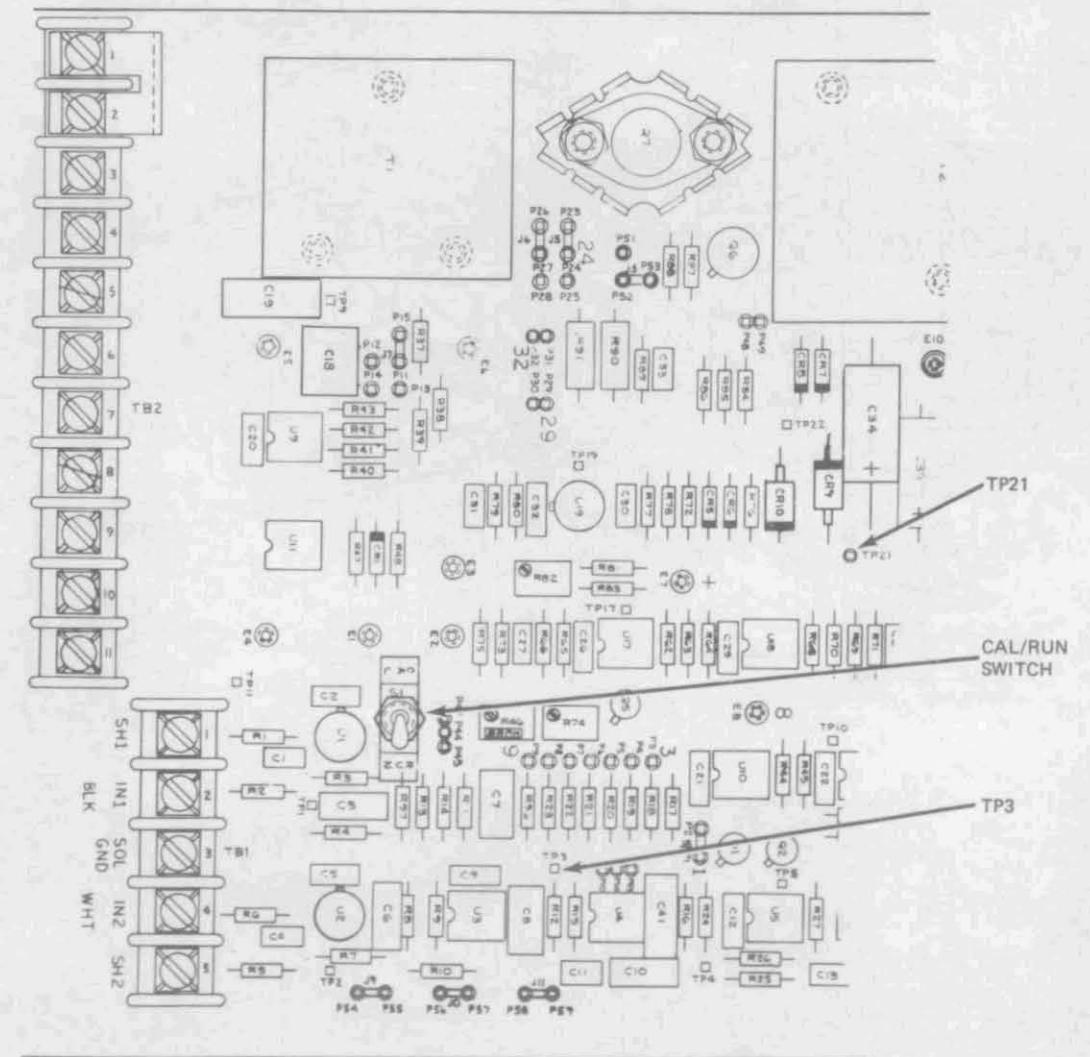

Figure 2
3. For E96 Style D, refer to Figure 2. Put CAL/RUN switch in CAL position. Connect a battery-powered or earth-isolated (ground-isolated) ac voltmeter between test points TP3 and TP21. Use voltmeter having a minimum input impedance of 5000 ohms/volt and ranges of 0-to-1.0 and 0-to-0.1 volts. Proceed to Step 4.